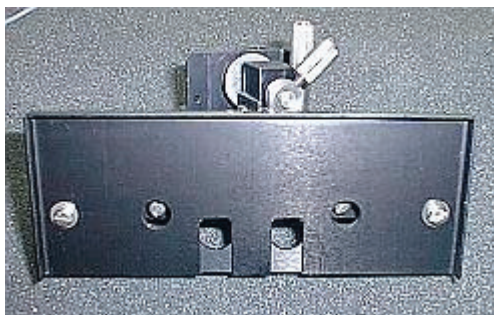

Figure 33 Front plate without fascia
2. Refit the front plate without the fascia, as shown in Figure 33.